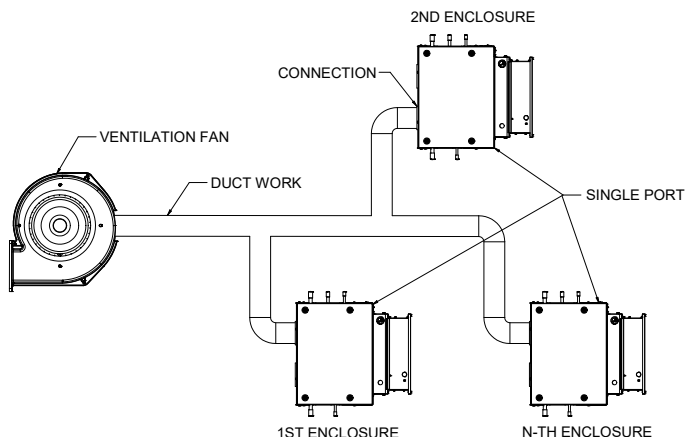

**FIGURE S.1**
- **DEPENDING ON SITE REQUIREMENTS, THE ENCLOSURE CAN BE INSTALLED IN EITHER A SERIES OR PARALLEL CONFIGURATION. (REFER TO FIGS. S.1 AND S.2.)**